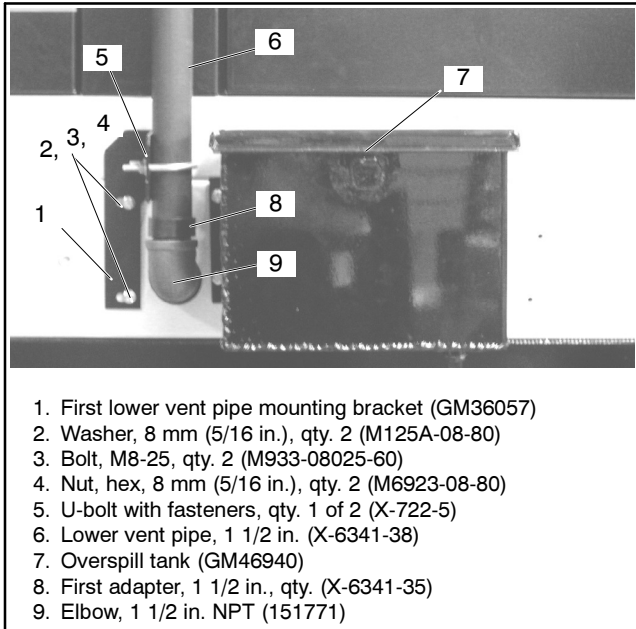

Figure 21 Attach Vent Pipe to Mounting Bracket
- Place 8 mm (5/16 in.) washers M125A-08-80 with M8-25 bolts M933-08025-60 thru mounting slot on overspill tank GM46940. Hand tighten all fasteners. See Figure 21.
2.2.17 Verify lower vent pipe mounting bracket GM36057 and 1 1/2 in. NPT lower vent pipe X-6341-38 are 90° to the enclosure. Tighten fasteners securely. See Figure 21.
2.2.19 Attach first 1 1/2 in. adapter X-6341-35 to 1 1/2 in. NPT elbow 151771. See Figure 21.
2.2.20 Discard saddle on U-bolt X-722-5. Slide U-bolt through lower vent pipe mounting bracket GM36057 slots and re-attach fasteners. Hand tighten fasteners. See Figure 21.
2.2.21 Insert the first lower vent pipe thru U-bolt X-722-5. Use PVC adhesive and attach the top of first 1 1/2 in. adapter X-6341-35 to the bottom of first 1 1/2 in. lower vent pipe X-6341-38. See Figure 21.
2.3.15 Tighten and secure all fasteners on both U-bolts X-722-5 and lower vent pipe mounting bracket GM36057. See Figure 21.